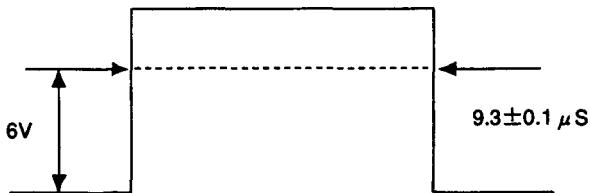

Fig.5-3
4. Observe the anode of TP300 or D516 with an oscilloscope, and adjust [H-BLANKING] so that the waveform will be as shown in Fig.5-3.